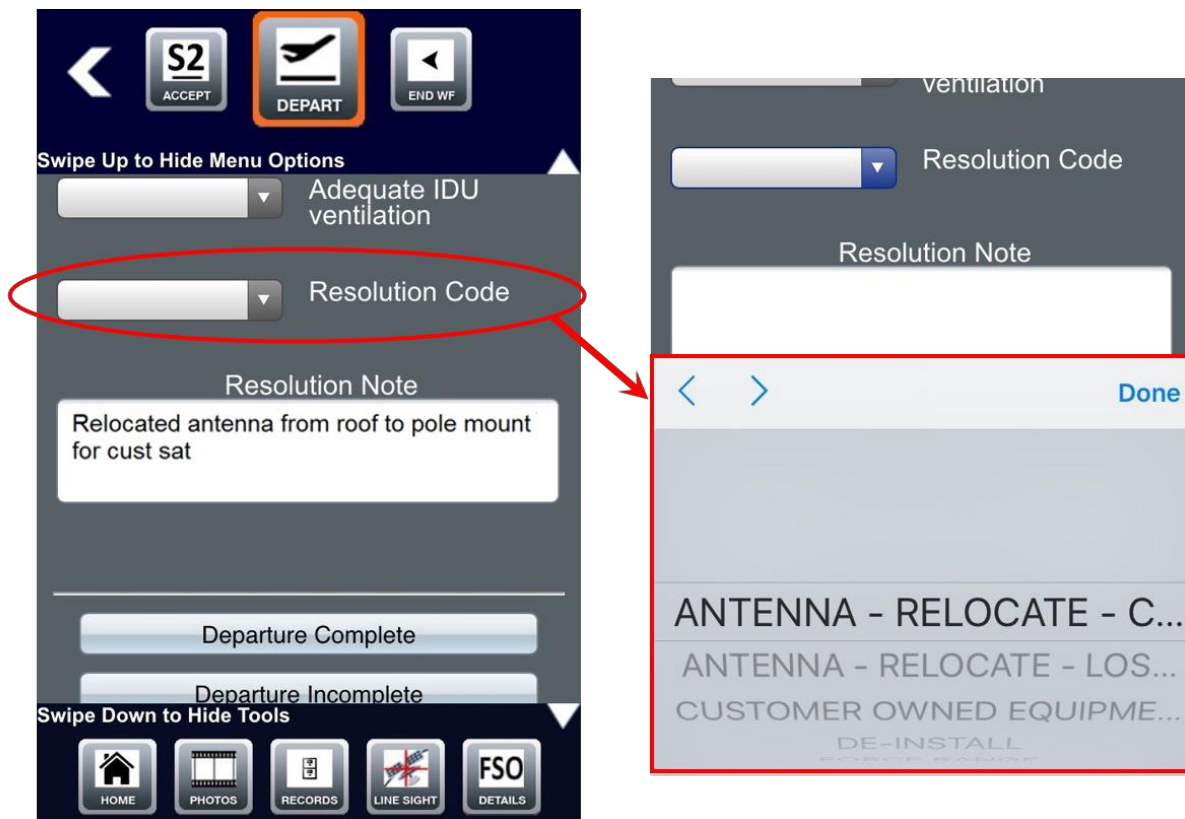

Figure 68: Selecting a resolution code
1. Tap the *Resolution Code* dropdown to launch a list of possible resolution types (Figure 68).